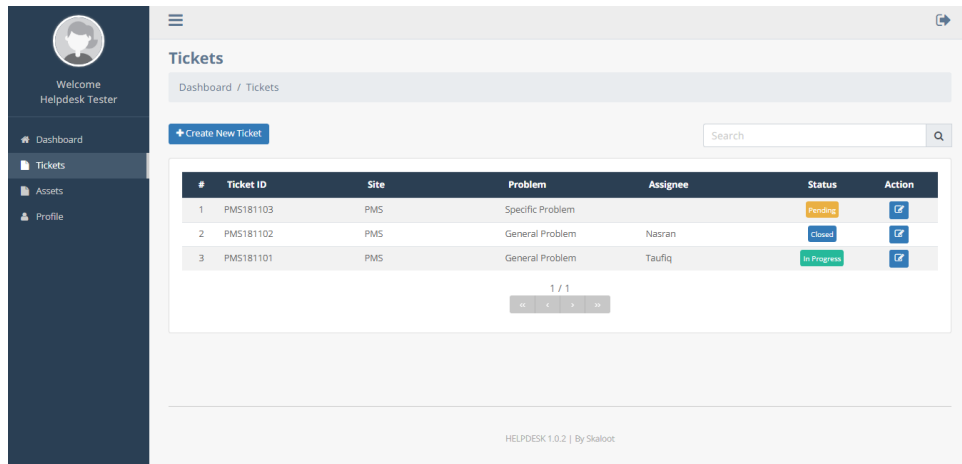

Figure 3.1: Ticket Listing
Figure 3.1 shows the listing of each ticket represented for each case reported. The listing displays information for each ticket including status. There are four (4) types of status that can be displayed here. This has been described in the previous section (Dashboard).